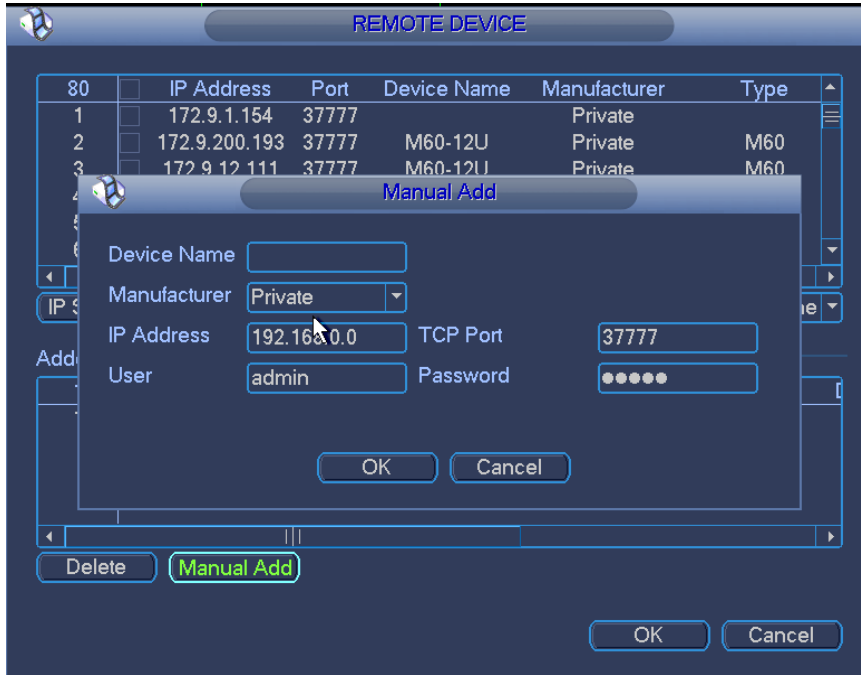

Figure 4-12
- 2) System pops up the following interface. See Figure 4-12. Here you can input device name, manufacturer, IP address, TCP port, user, password.